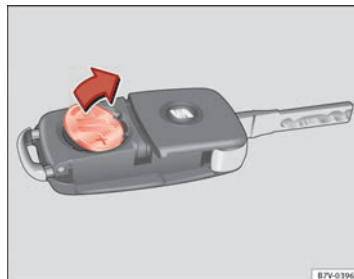

Fig. 45 Vehicle key: removing the battery ►
- Extract the battery from the compartment using a suitable thin object ⇒ Fig. 45.
- Place the new battery in the compartment, pressing in the direction of the arrow as shown ⇒ Fig. 45 ⇒ ①.